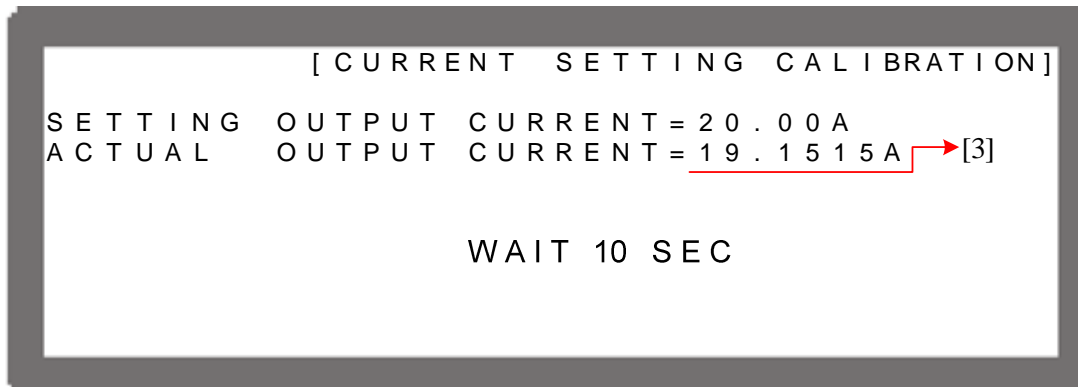

Figure 3-110
- (8) Now, the DC Power Supply will be set to off again. Press the “” to do 20A calibration, a message will pop up to remind the user to reconnect to the proper current shunt range and start high current range calibration. Setting the current shunt whose rating is closest to, but still covers 20A. For Prodigit 7530, use 20A shunt directly.
- (9) Pressing the “” will perform 20A calibration. The system will set the output current to 20.00A automatically and a second reading will appear on the screen. Once the reading is done, the cursor will stop at position [3] as Figure 3-110 shows. Input the current (4 digits after decimal point) read by Current Shunt (DVM) and press “” to confirm.